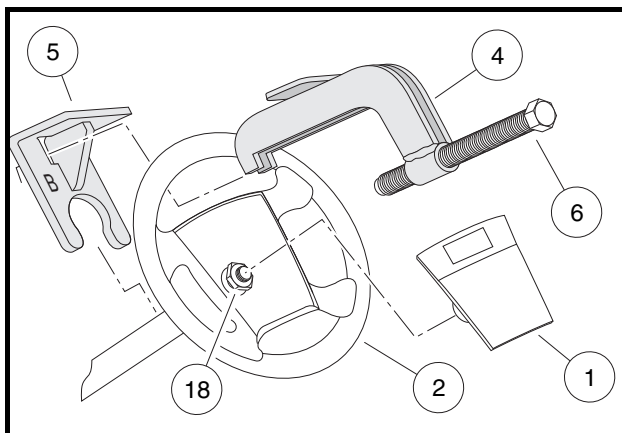

Figure 7-1 Steering Wheel Puller
- 6.1. Place the puller anvil (4) through the top opening of the steering wheel (**Figure 7-1, Page 7-1**).